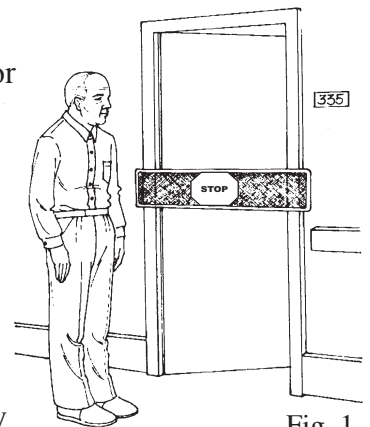

Fig. 1
Peel the backing off the hook and loop pressure-sensitive strips and attach them to the left and right sides of the door frame (909220, 909221). The stop sign only (909226) should be placed on the center of the door. The fluorescent yellow stop strip and red stop sign should be positioned at mid height on the door frame (Fig. 1).
The magnet version only works on steel door frames. Simply affix the magnet to the door frame at mid height as shown in (Fig. 1). Note this version will not work on wooden or aluminium door frames.
3. Attach Stop Strip across door opening and connect magnet to blue alarm unit using the magnet sewn into the Stop Strip corner (see Fig. 1).